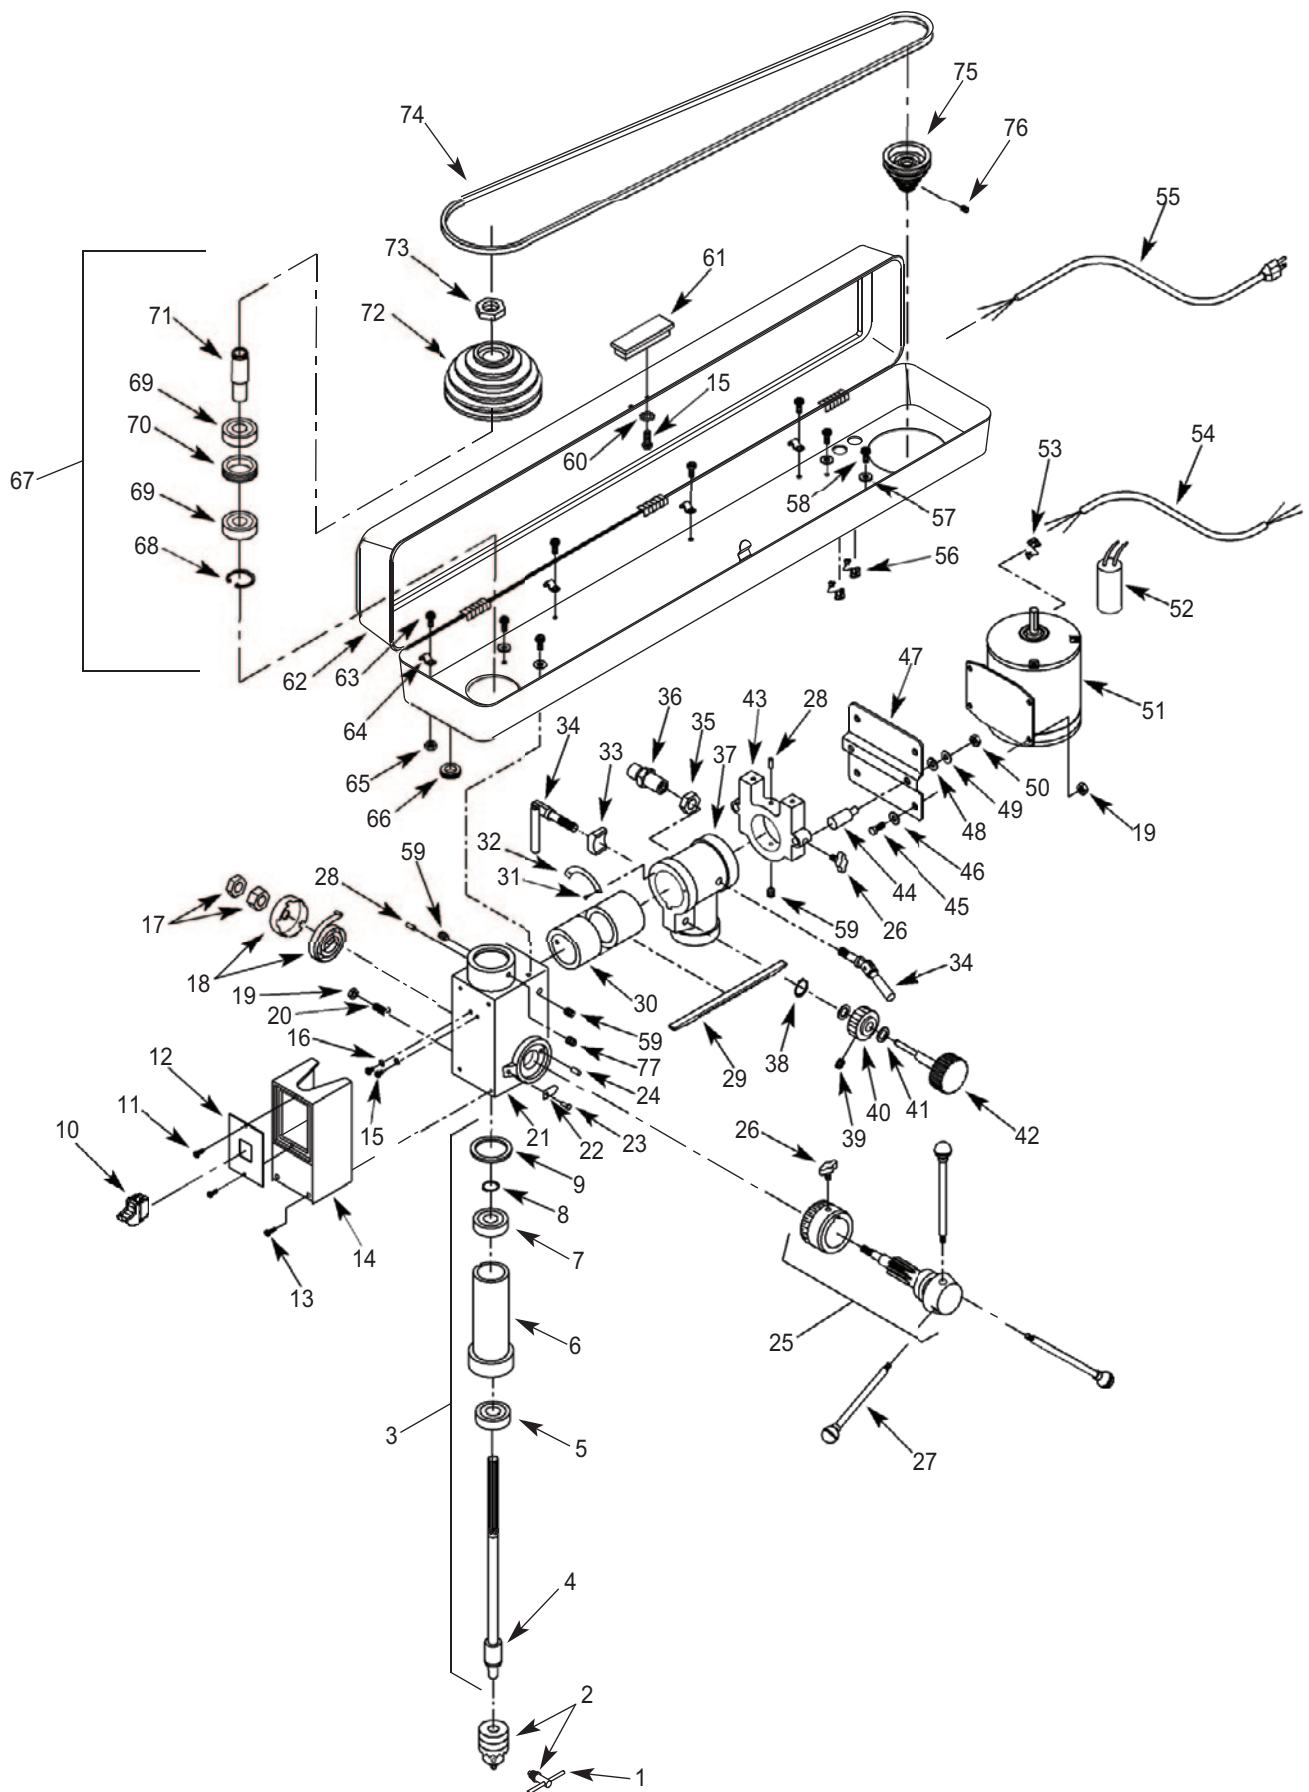

Figure 22 - Replacement Parts Illustration for Head Models 9680341B & 9680342B
- Lower spindle assembly (Figure 22, Ref. No. 3) all the way down.
- Apply lubricant around the inside of the hole in the spindle pulley (Figure 22, Ref. No. 72).
- Apply lubricant to rack (teeth) on quill (Figure 22, Ref. No. 6) while extended below drill press head.